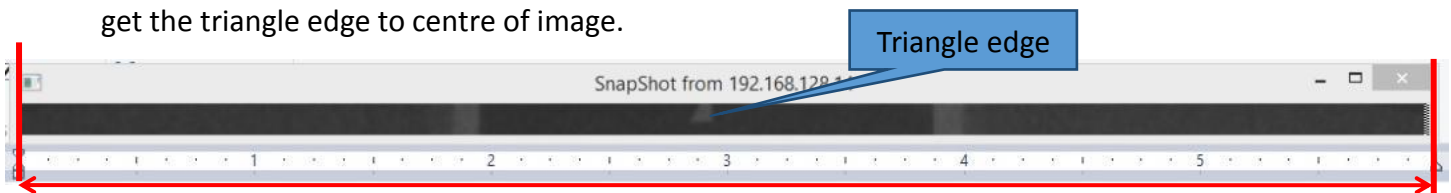

Figure 16
11. Select the “Large” focus mode and ensure the setting was X-ray tube Voltage (130kv) and Current (200uA) as shown in the Figure 16. Press X-ray ON and leave it for warm-up for 1 hour